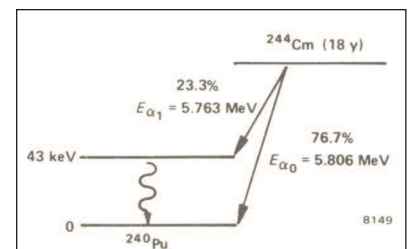
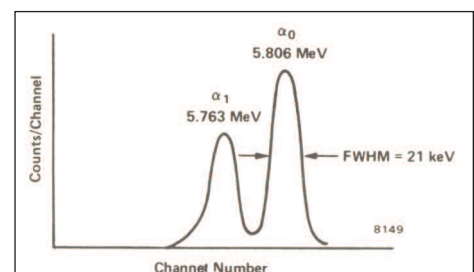

Fig. 20.1. Decay Scheme of ^{244}Cm .
Fig. 20.2. The High-Energy Portion of the Alpha Spectrum from ^{244}Cm .
Coincidence events such as (γ, γ) have been studied in previous experiments. The decay scheme of ^{244}Cm , given in Fig. 20.1, shows that two alpha particle energies are present in the charged-particle spectrum. The energies are 5.806 MeV and 5.763 MeV. Figure 20.2 is a typical alpha spectrum of ^{244}Cm obtained with a silicon charged-particle detector.
The details of making measurements with silicon charged-particle detectors are covered in Experiment 4. The 43-keV level in Fig. 20.1 de-excites most of the time by internal conversion. The conversion-electron-to-gamma-ray yield ratio for this level is 760, which means there will be 760 conversion electrons for each 43-keV gamma-ray, on the average. This internal conversion process has to involve L- or M-shell electrons, since the binding energy of the K electron is 122 keV for ^{240}Pu . In other words, 43 keV is not enough energy to eject the K electrons from their tightly-bound shell. Therefore, most of the time, α_1 will be in coincidence with the L x rays resulting from the internal conversion process. This
- m. Adjust the gain on the 575A Amplifier to accumulate the 5.763-MeV and 5.806-MeV alpha peaks in the top eighth of the EASY-MCA spectrum. The spectrum should look similar to that shown in Fig. 20.2.